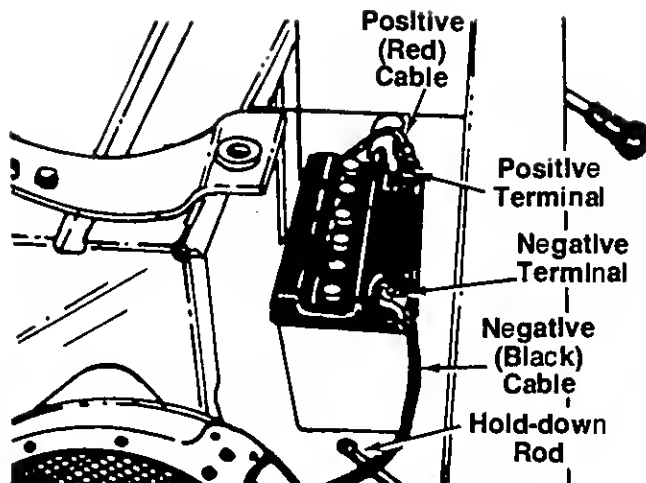

FIGURE 10.
1. Hook the battery hold-down rods into the holes in the frame. See figures 10 and 11.
2. Place the battery in the rider with the positive terminal to the front. The negative terminal goes to the rear of the unit. See figure 10.
4. Place the negative (heavy black) cable on the negative terminal. Secure with bolt, nut and lock washer provided with battery. See figure 10.